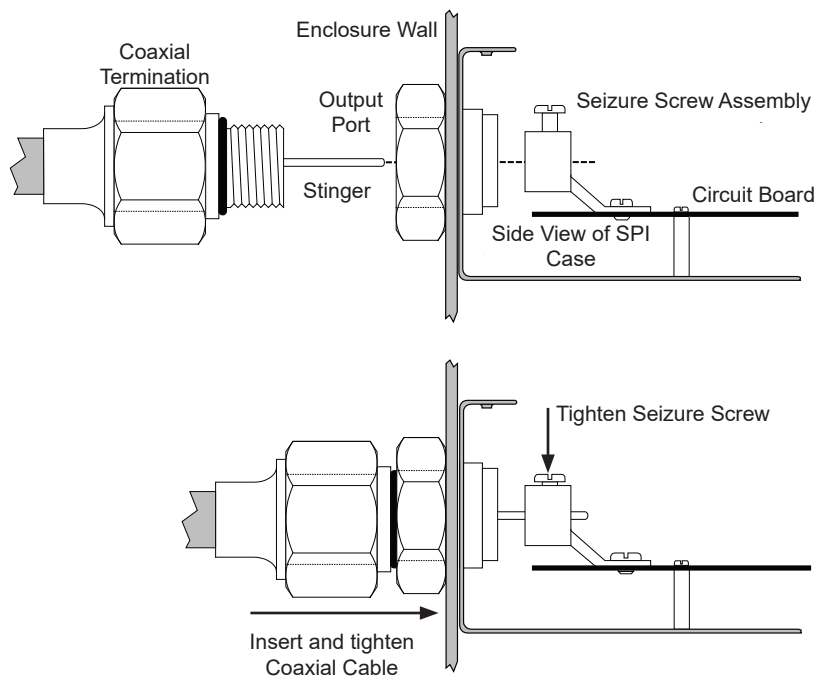

Fig. 3-5, Connecting Coax to SPI Output Port
4. Insert the coaxial termination into the output port on the bottom of the SPI. Ensure that the stinger goes through the seizure screw assembly. (Fig. 3-5)